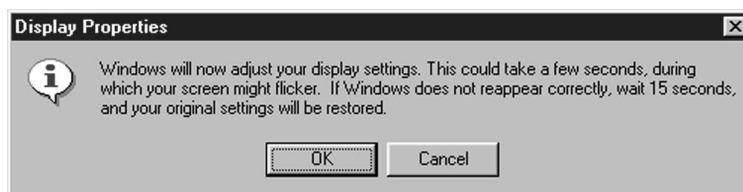

Fig. 75
① Slider
- Click the **OK** button in the confirmation window to set the display area. To cancel, click the **Cancel** button. (See figs. 75–76.)